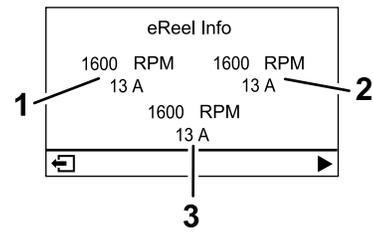

Figure 23
- **eReel motor screen (Figure 23):** shows the speed and current of each cutting-unit motor.